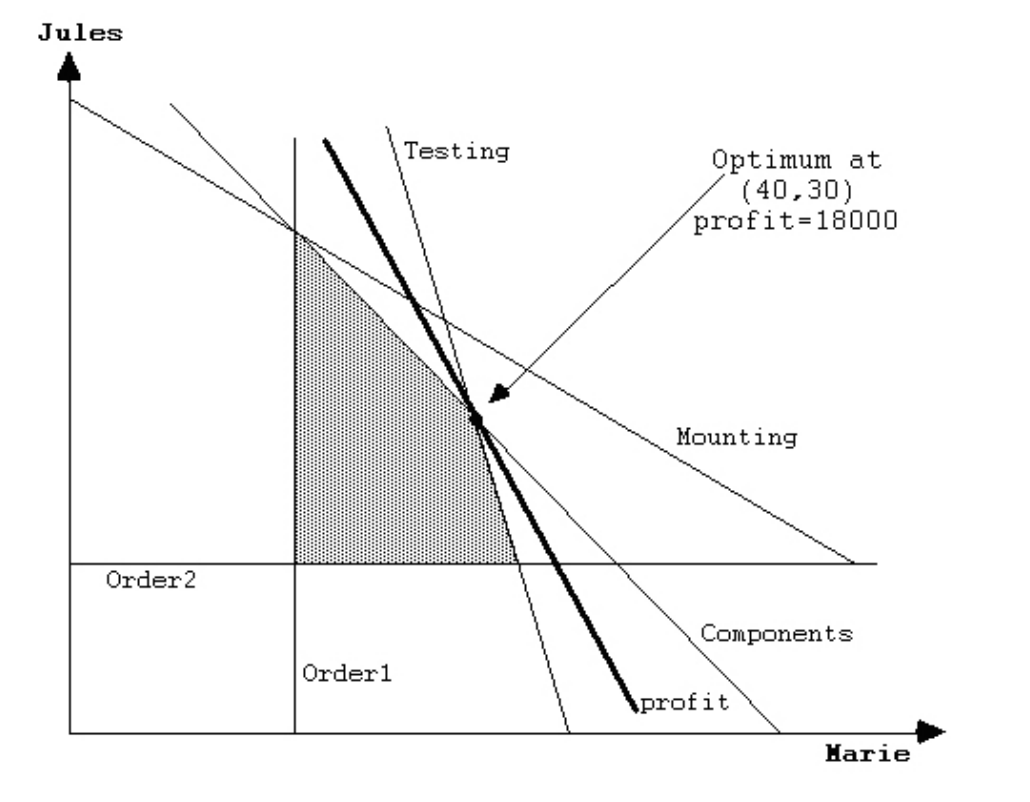

Figure 1: The Feasible Space
In a graphical way, the model represents the solution space as shown in Figure 1. That is, every (x, y) -point within the gray polygon represents a possible (feasible) production that fulfills all constraints. All other points in the two-dimensional space violate at least one of the constraints.
[[This part of the documentation is intended to give a short comment about the solution of the model.]] The optimal solution is $x = 40$ and $y = 30$, which can be verified by Figure 1. It means that neither the quantity of x nor the quantity of y can be increased without violating one of the capacity constraint. On the other hand, a reduction of one of the quantities is "suboptimal": it reduces the **profit**, and hence it is no longer maximized.
2. Nothing happens! The solution is still $\{x = 40, y = 30\}$. This can be seen immediately from Figure 1: The **Mounting** capacity is not the limiting resource. So, extending it, changes nothing. To verify this, change 480 to 500 in the model and run it. Then look at the values of the variables again.